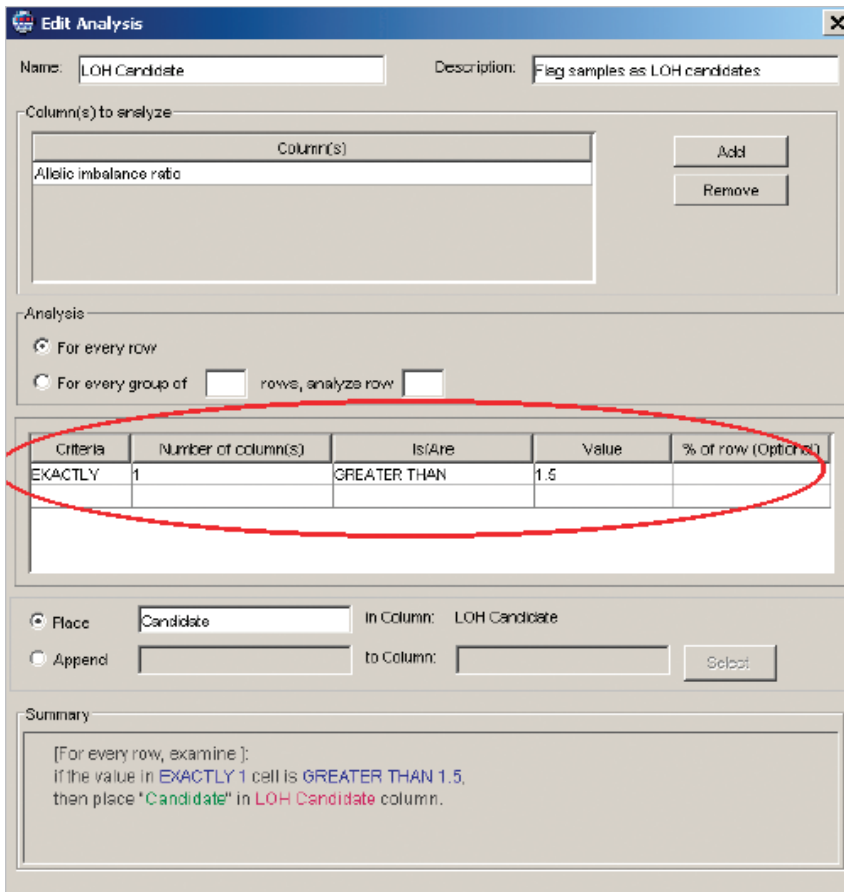

Figure 9. Final analysis can be performed to identify LOH candidate samples.
Step 3 Flag the samples as LOH candidates using the threshold value you specify. For example, if you determine that samples with LOH values greater than 1.5 should be flagged, specify it in the Report Manager as shown in Figure 9. GeneMapper software can now use these calculations to generate a Final Results report as shown in Figure 4.